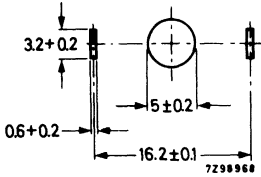

Fig. 3. Mounting holes for potentiometers with twist tags.
- Fig.3 for potentiometers with twist tags. The potentiometers can be fixed by twisting the tags.